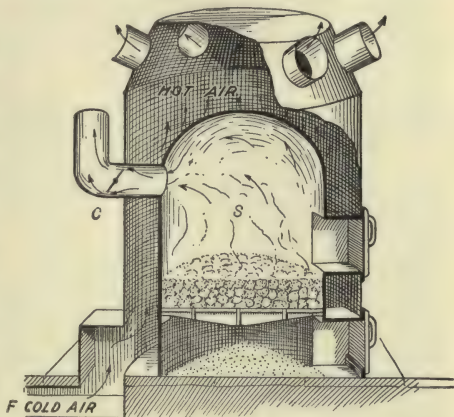

FIG. 12. — A furnace. Pipes conduct hot air to the rooms.
**Furnaces.** *Hot air.* — The labor involved in the care of numerous stoves is considerable, and the use of a central heating stove, or furnace, is a great saving in strength and fuel. A furnace is a stove arranged as in Figure 12. The